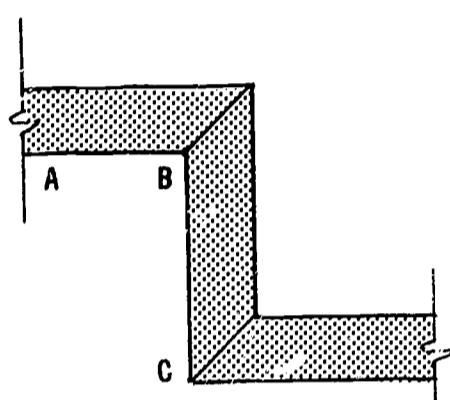

Fig. 61. Forming an inside corner to an outside corner
- If the first corner to be bent is an inside corner, such as that shown in Fig. 61, A represents the starting point at the door casing, B the first corner to be bent, and C an outside corner that is the second corner to be bent.
- In measuring the distance B to C in Fig. 61, remember to add the width of the top of the metal (which is usually $3/16"$) to each half of the outside corner C. Thus, for measurement B to C, add $1/8"$ ($3/16" - 1/16" = 2/16" = 1/8"$).